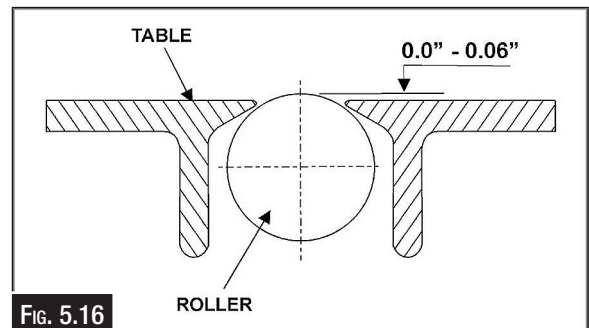

Fig. 5.16
**NOTE: When raising the roller higher above the table, the range is from zero to 0.06" (Fig. 5.16).**